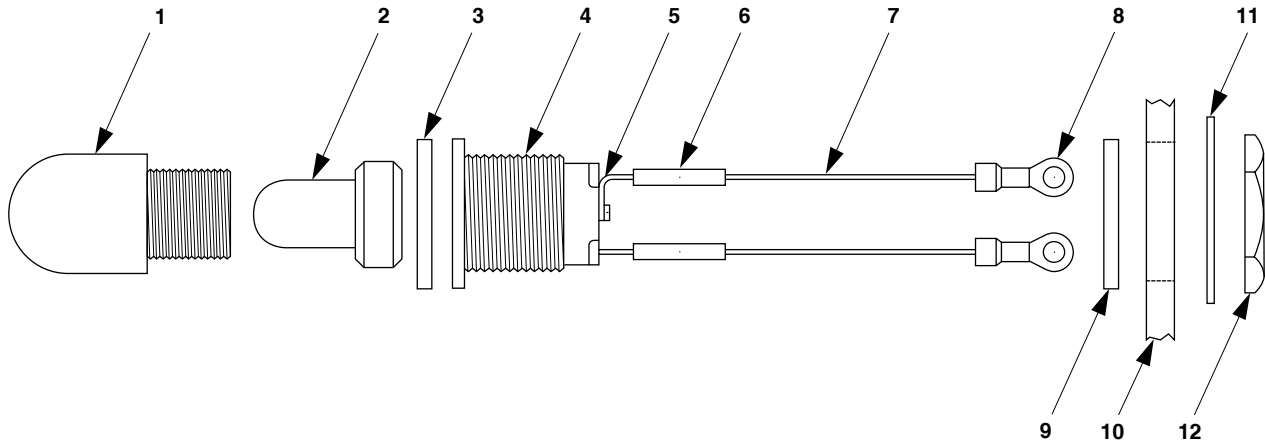

Figure 4-14. Indicator Light Assembly.
1. Measure for continuity between terminals (5, figure 4-14). If continuity exists, replace lamp housing.
2. Measure for continuity of indicator light assembly leads (7) between terminals (5 and 8) in accordance with Table 4-2.
1. Unscrew lens (1, figure 4-14) and remove and save lens (1), lamp (2), and O-ring (3).
2. Tag and disconnect terminal leads (7) from applicable switch box components.
4. Remove nut (12) and lock washer (11).
5. Pull housing (4) and attached parts (5 through 8) through opening in switch box cover (10).
- a. Unscrew and remove lens (1, figure 4-14). Do not take O-ring (3) out of lens (1).
- b. Take lamp (2) out of lens (1) or housing (4), as applicable.
- c. Remove O-ring (9).
- d. Cut and remove insulation sleeving (6) from both wire leads (7).
- e. Unsolder and remove wire leads (7) from terminals (5).
- a. Solder one end of each wire (7) to a housing terminal (5).
- b. Install insulation sleeving (6) over each soldered connection and heat shrink to a firm fit.
- c. Crimp a terminal lug (8) onto end of each wire (7).
- d. Install O-ring (9).
1. Insert terminal leads (7, figure 4-14) through opening in switch box housing (10) and pull through until O-ring (9) rests against switch box cover (10).
2. Install lock washer (11) and mounting nut (12).
3. Connect terminal lugs (8) to switch box components in accordance with table 4-2.
4. Insert lamp (2) and O-ring (3) into lens (1).